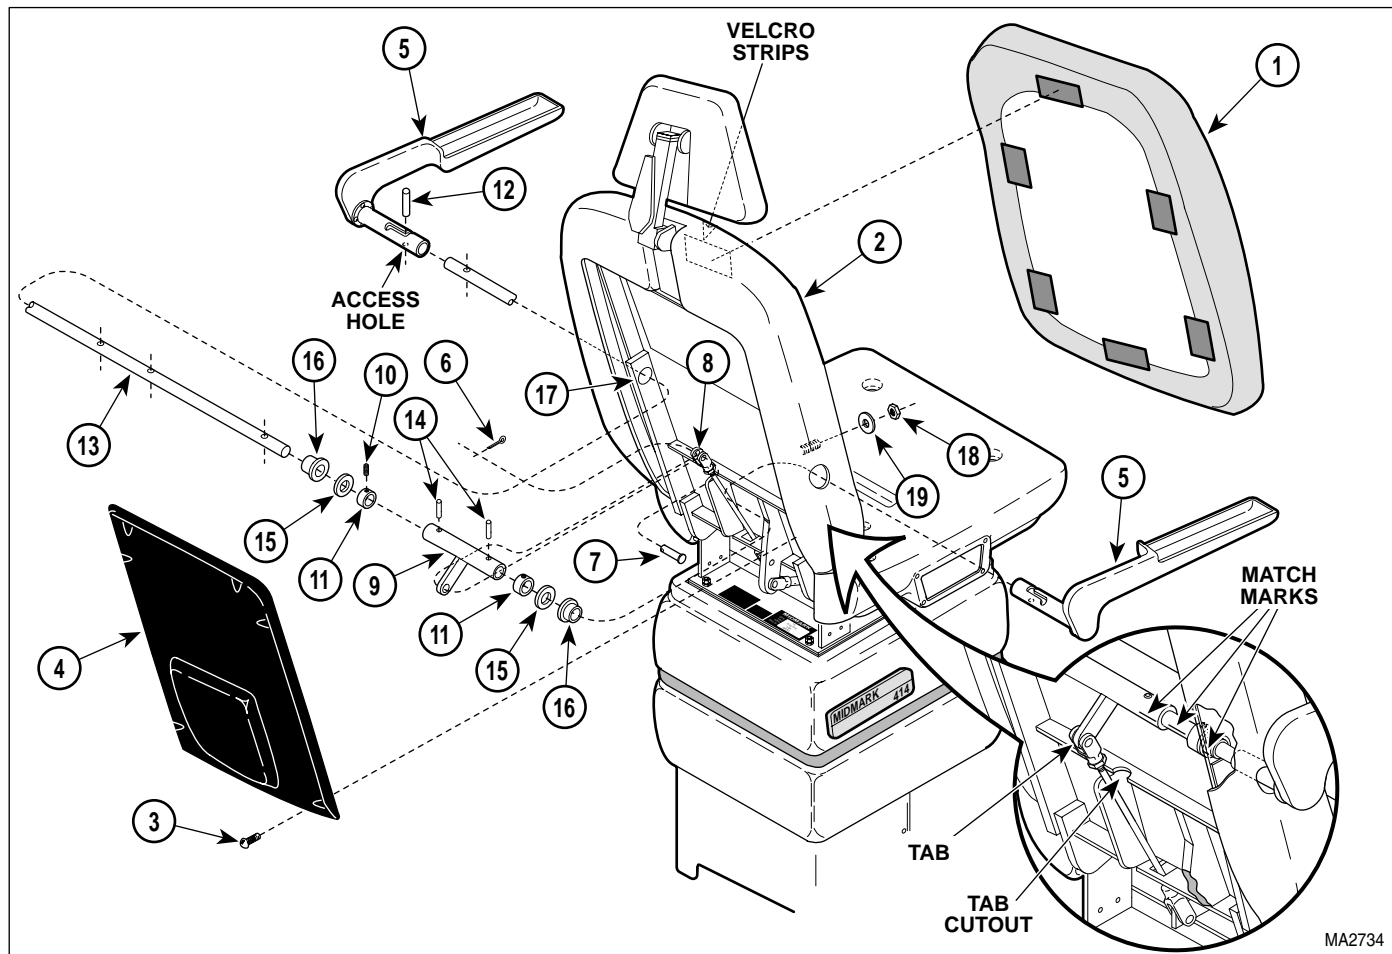

Figure 4-32. Plastic Back Section Removal / Installation
- (2) Unplug power cord from wall receptacle.
- (3) Remove upholstered back section (1, Figure 4-32) from plastic back section (2).
- (4) Remove six screws (3) and back cover (4) from plastic back section (2).
- (5) While supporting arm castings (5), remove cotter pin (6), clevis pin (7), and disconnect clevis (8) from arm tube weldment (9). Lower arm castings.
- (6) Loosen one setscrew (10) in each arm collar (11).
- (7) Pull on one of the arm castings (5) until its groove pin (12) can be accessed with a hammer and punch.
- (8) Align access hole in arm casting (5) with groove pin (12); then using hammer and punch inserted thru access hole, drive groove pin out.
- (9) Remove arm casting (5) from arm shaft (13).
- (10) Repeat steps 7 thru 9 to remove remaining arm casting (5).